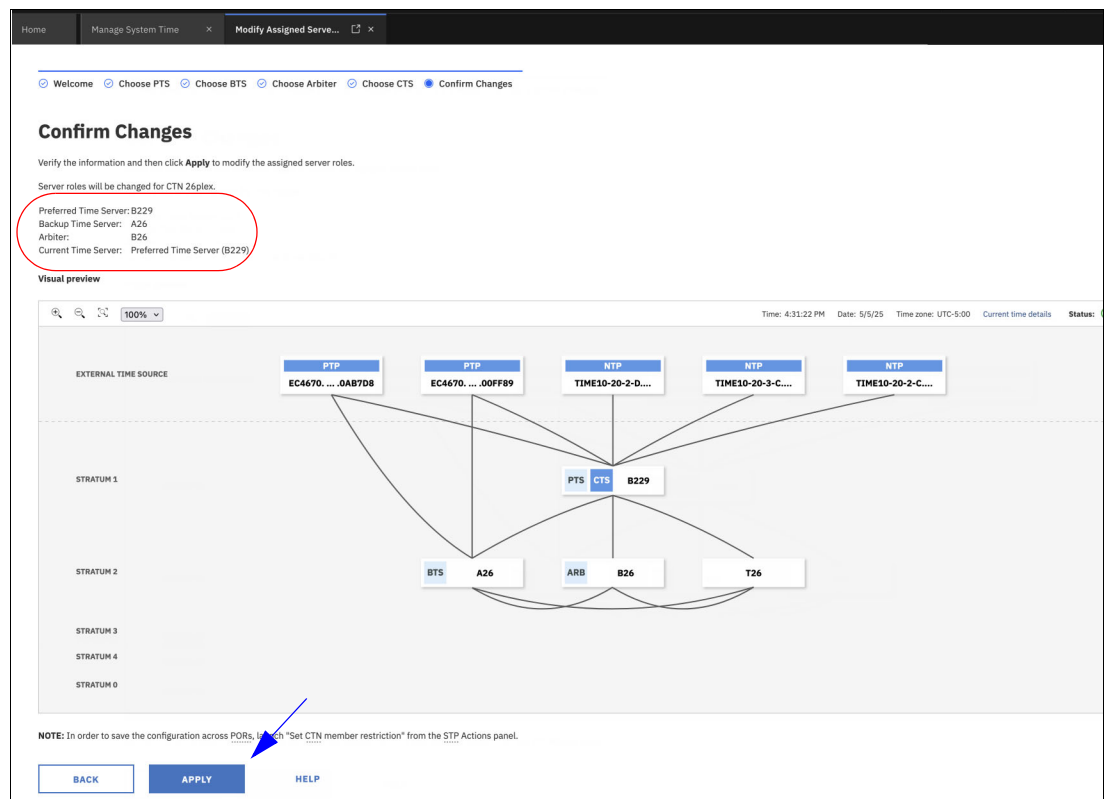

Figure 3-31 Confirm configuration and APPLY
- Click **NEXT** to review the changes before applying the new server roles, as shown in Figure 3-31.